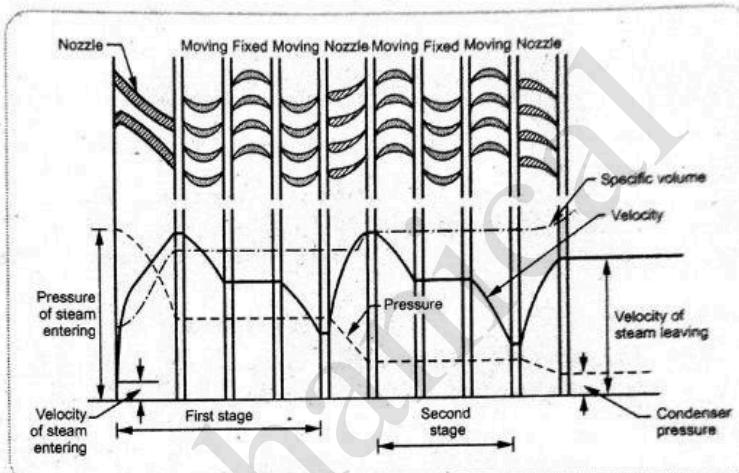

Fig. 4.9 : Pressure and velocity compounded steam turbine
- Fig. 4.9 shows the pressure - velocity compounding arrangement which is the combination of both the methods discussed earlier.